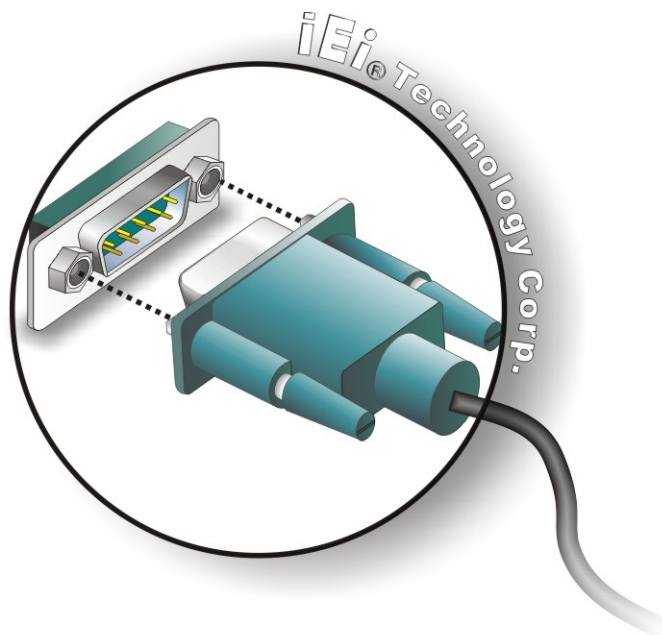

Figure 3-23: RS-422/485 Serial Device Connector
Step 2: **Insert the serial connector.** Insert the DB-9 connector of a serial device into the DB-9 connector on the external peripheral interface. See **Figure 3-23**.